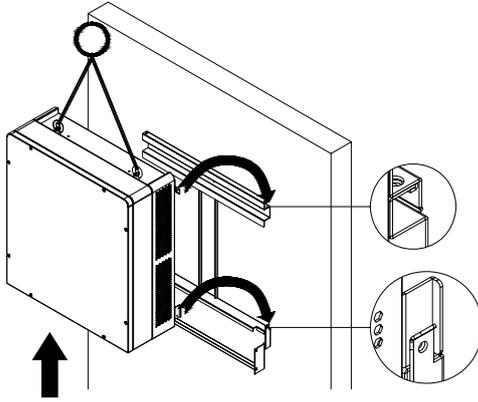
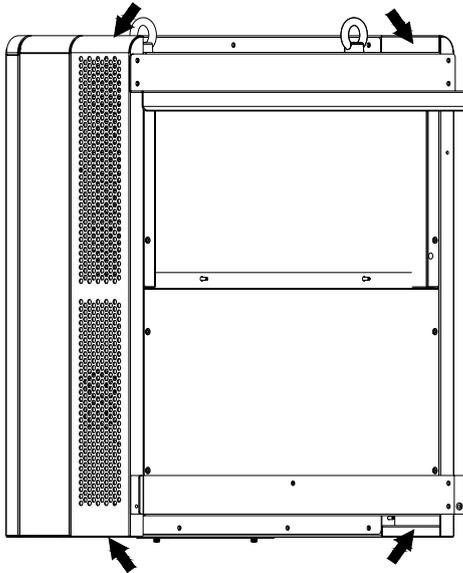

Figure 3-7 Mount the main housing on the bracket by lifting
Figure 3-8 Position of grab handle
(3) Hang the inverter onto the mounting bracket as shown in Figure 3-7 and Figure 3-8;
Manual mounting: Two people grab the handle positions marked in Figure 3-8, and mount the inverter onto the bracket.